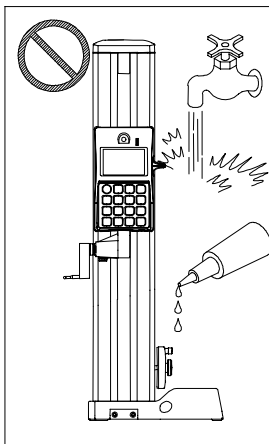

Fig.1
- Do not use this gage in locations where it will be directly exposed to cutting fluids, water, dust, etc. (Fig.1).